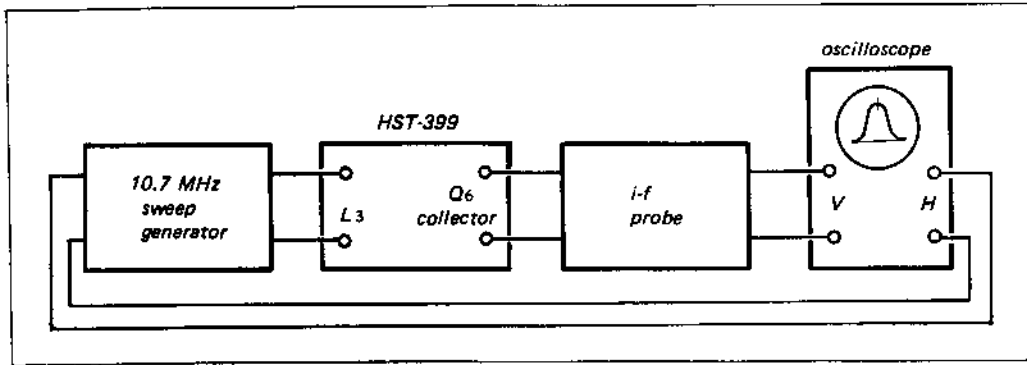

Fig. 3-4 Fm i-f strip alignment test setup, sweep generator alignment
1. With the equipment connected as shown in Fig. 3-4, set the sweep generator's controls as follows: